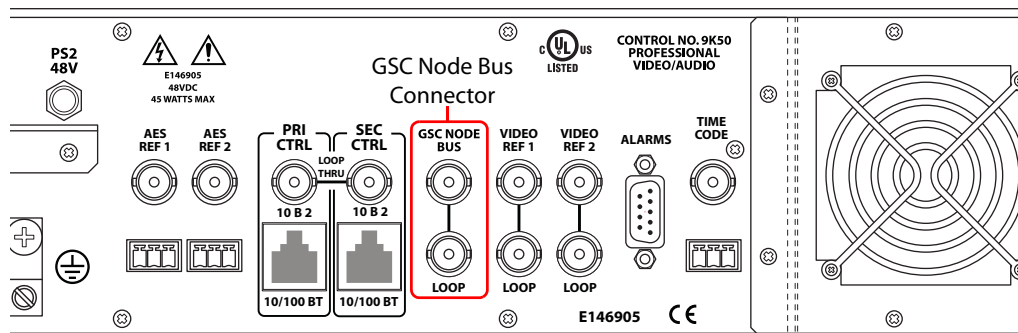

Fig. 2-2: GSC Node Bus Control Connection (Rear View)
- 1 Locate the GSC Node Bus connections on the rear of the router, as shown in Figure 2-2. System controller connections are labeled 'GSC NODE BUS'.